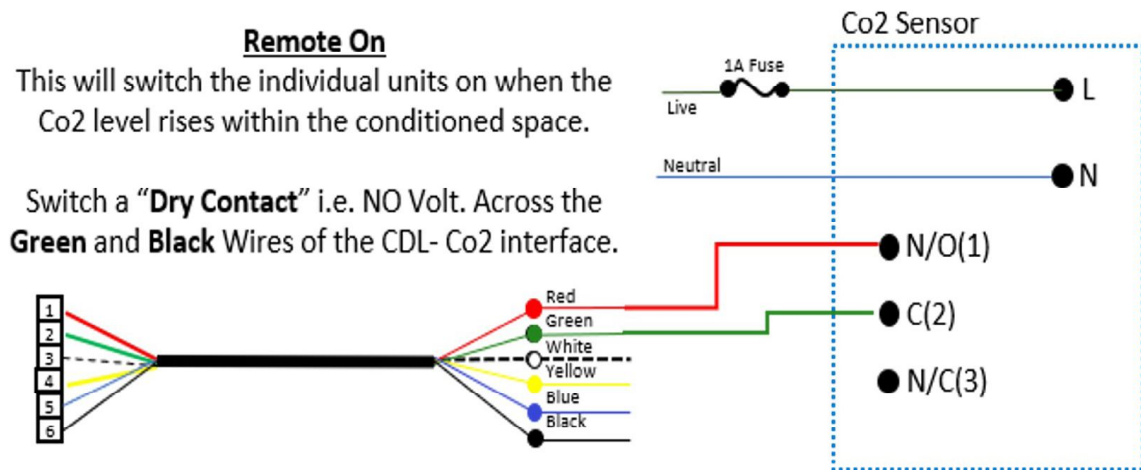

fig 16
Connect the "Green - Common" cable from the interface lead to the "C" common terminal at the CO2 sensor, connect the "Red - ON" to the N/O (1) terminal at the CO2 sensor, (fig 16 / fig 17). The unit defaults on start-up to High Fan Speed.